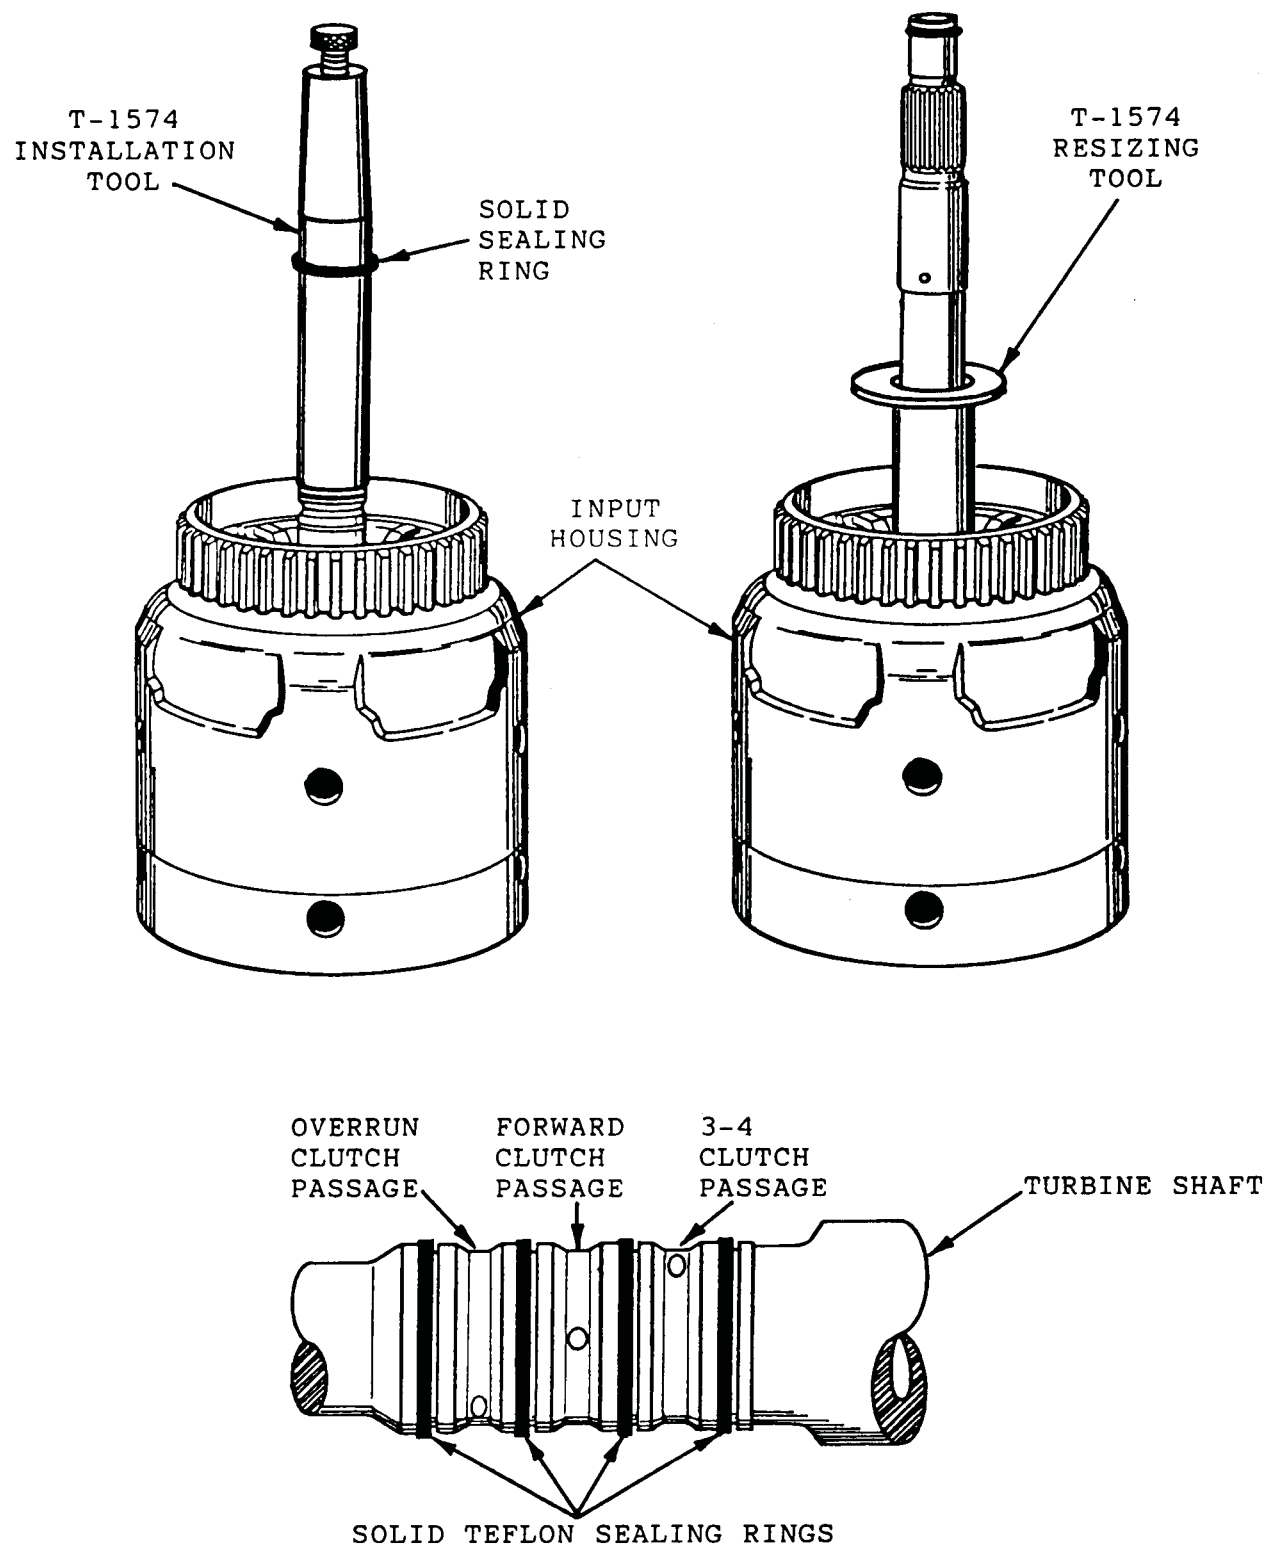

Figure 112
17. Remove and discard the four turbine shaft sealing rings from the turbine shaft (See Figure 112).